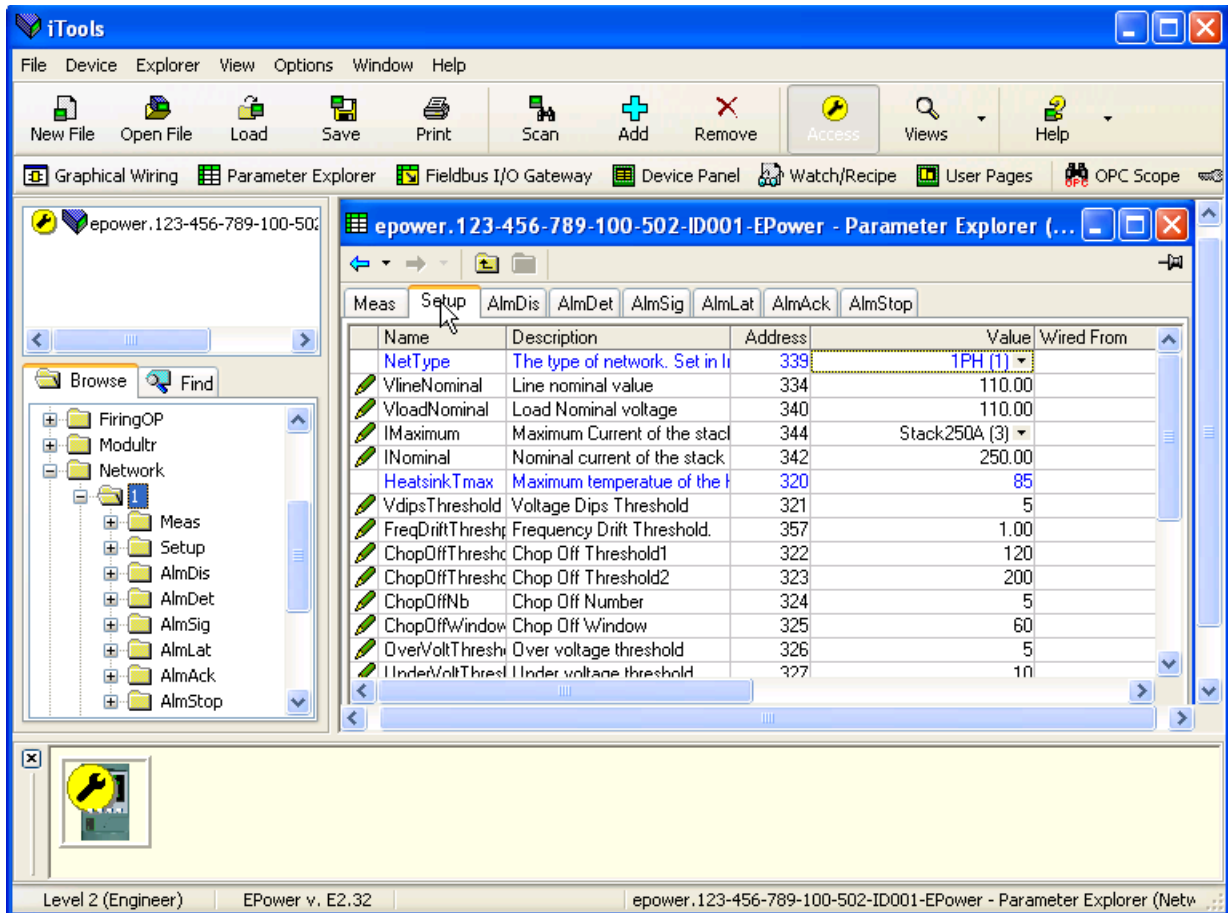
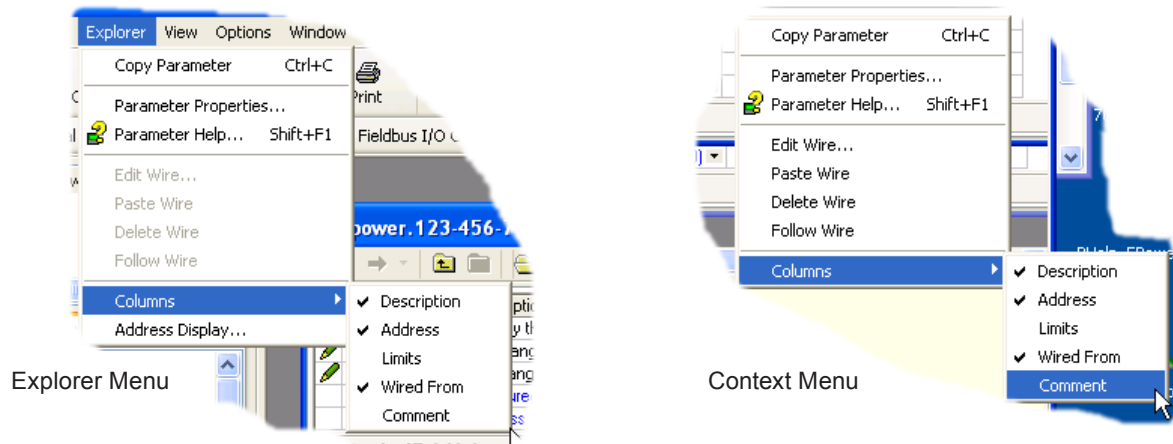

Figure 7.4a Parameter table example
Figure 7.4b Column enable/disable
In each case the function block parameters appear in the iTools window in tabular form, such as the example in figure 7.4a, below.
The figure above shows the default table layout. Columns can be added/deleted from the view using the 'Columns' item of the Explorer or context menus (figure 7.4b).
- Parameters in blue are non-editable (Read only). In the example above all the parameters are read only. Read/write parameters are in black and have a 'pencil' symbol in the 'read/Write access' column at the left edge of the table. A number of such items are shown in figure 7.4a, above.
- Columns. The default explorer window (figure 7.4a) contains the columns 'Name', 'Description', 'Address', 'Value', and 'Wired From'. As can be seen from figure 7.4b, the columns to be displayed can be selected, to a certain extent, using either the 'Explorer' menu or the context menu. 'Limits' have been enabled for the example above.